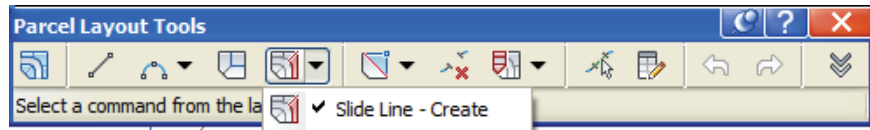

Figure 2–30
6. In the Create Parcels - Layout dialog box, set the following parameters, as shown in Figure 2–31: